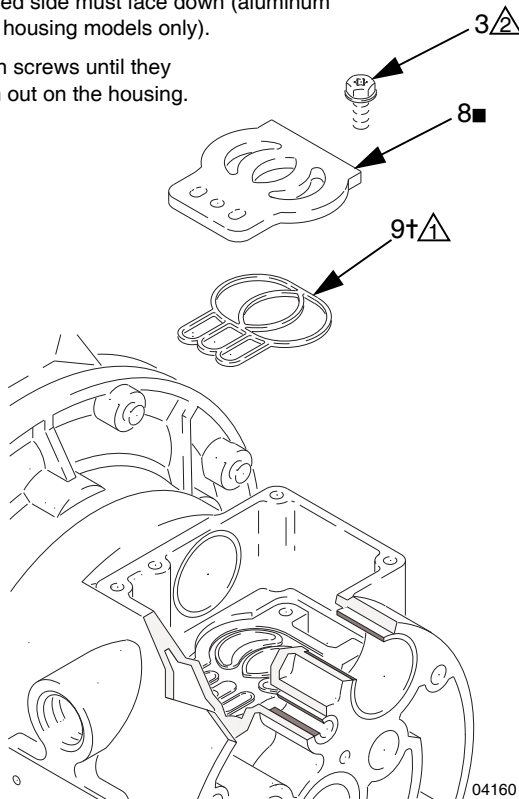

Fig. 10
5. Inspect the valve plate (8) in place. If damaged, use a Torx (T20) screwdriver or 7 mm (9/32") socket wrench to remove the three screws (3). Remove the valve plate (8) and on aluminum center housing models only, remove the seal (9). See Fig. 10.
2. On aluminum center housing models, install the valve plate seal (9†) into the groove at the bottom of the valve cavity. The rounded side of the seal **must face down** into the groove. See Fig. 10.
3. Install the valve plate (8■) in the cavity. On aluminum center housing models, the plate is reversible, so either side can face up. Install the three screws (3), using a Torx (T20) screwdriver or 7 mm (9/32") socket wrench. Tighten until the screws bottom out on the housing. See Fig. 10.